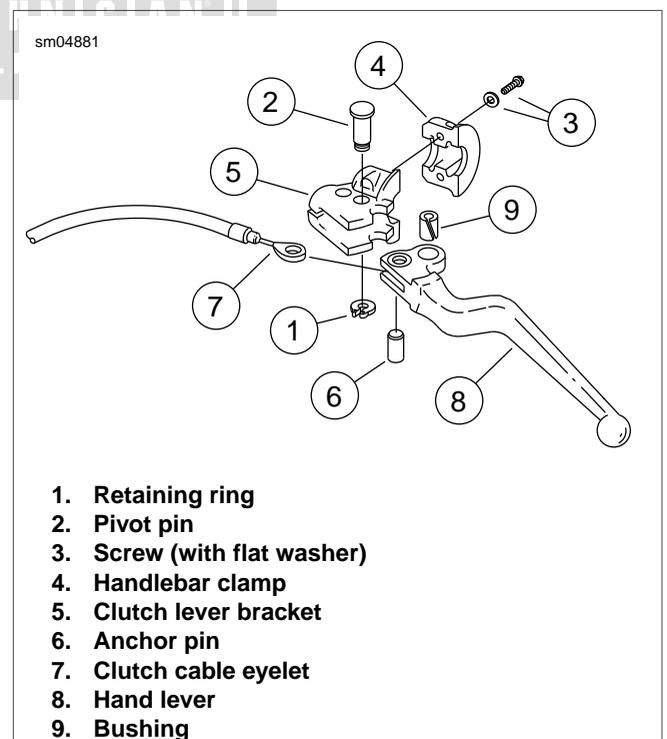

Figure 2-136. Disconnect Clutch Cable From Hand Lever
9. Remove anchor pin and clutch cable eyelet from clutch hand lever. See Figure 2-136.